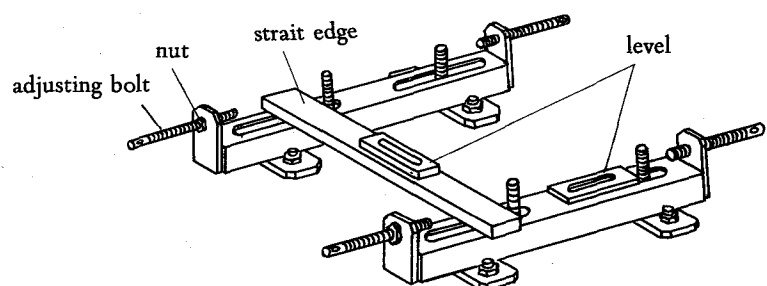

Fig. 4
- (3) In case slide rails are used, lay 2 rails in such a manner that the respective rail faces on which the gear case is mounted, constitute a horizontal plane, and then fix the gear case there on. (Fig. 4)